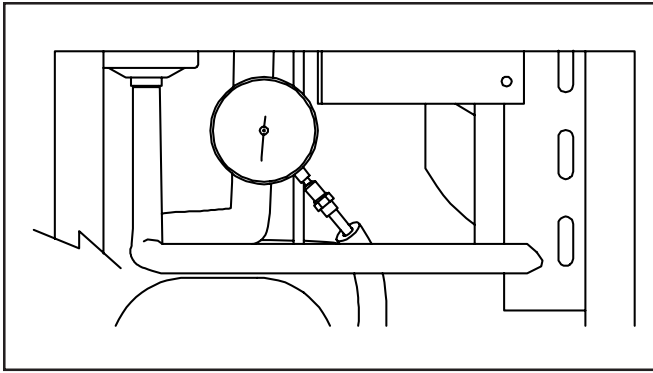

Figure 35. Install Gauge
3. Install a 0-100 P.S.I.G. gauge onto the Schrader valve (Fig. 35).